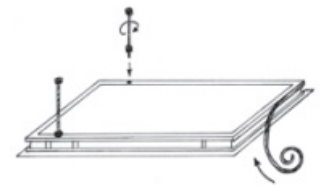

Figure 2: Application of compriband and installation wire spindle
2. Tape the compriband on the underside of the doorframe, so that the threshold and the doorframe do not make direct contact. Turn both wire spindles in the frame and secure these with a "contra" nut. Also place a nut on the tip of the wire spindle (see figure 2).